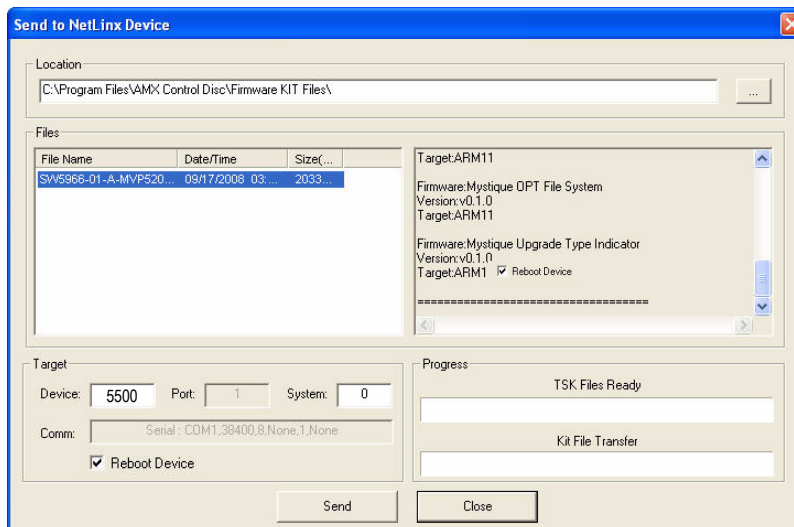

FIG. 60 Send To NetLinx Device dialog (NetLinx Studio)
- Assuming that the specified target directory contains one or more KIT files, the KIT files in the selected directory are displayed in the Files list box, with the file's last modified date and time (FIG. 60).